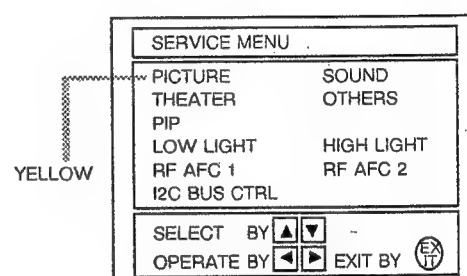

Fig. 1 SERVICE MENU
- 1) Press the DISPLAY KEY and VIDEO STATUS KEY of the REMOTE CONTROL UNIT at the same time to display the SERVICE MENU screen shown in Fig.1.